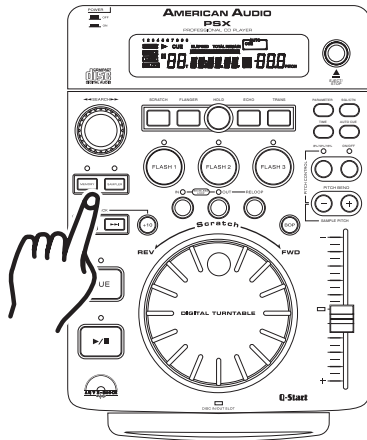
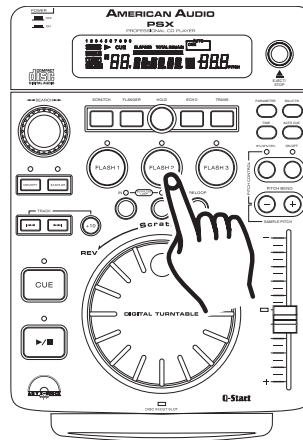

Figure 17
Figure 18
1) Create a Cue Point by one of the two means listed on page 14. Press the **MEMORY BUTTON** (12), as in Figure 17. The red Memory Cue LED will glow indicating the store memory function has been activated. You may now press any one of the three **FLASH BUTTONS** (6) to store your cue point into memory (Figure 18). After pressing one of the **FLASH BUTTONS** (6), the corresponding Flash Button LED will flash briefly. The LED on the above the Flash Button (6) will remain lit indicating either a sample or cue point is stored in memory. The red Memory LED will turn off.